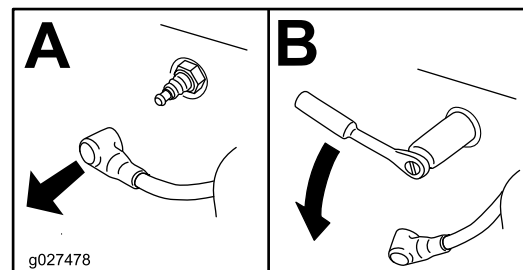

Figure 25
3. Remove the spark plug (Figure 25).